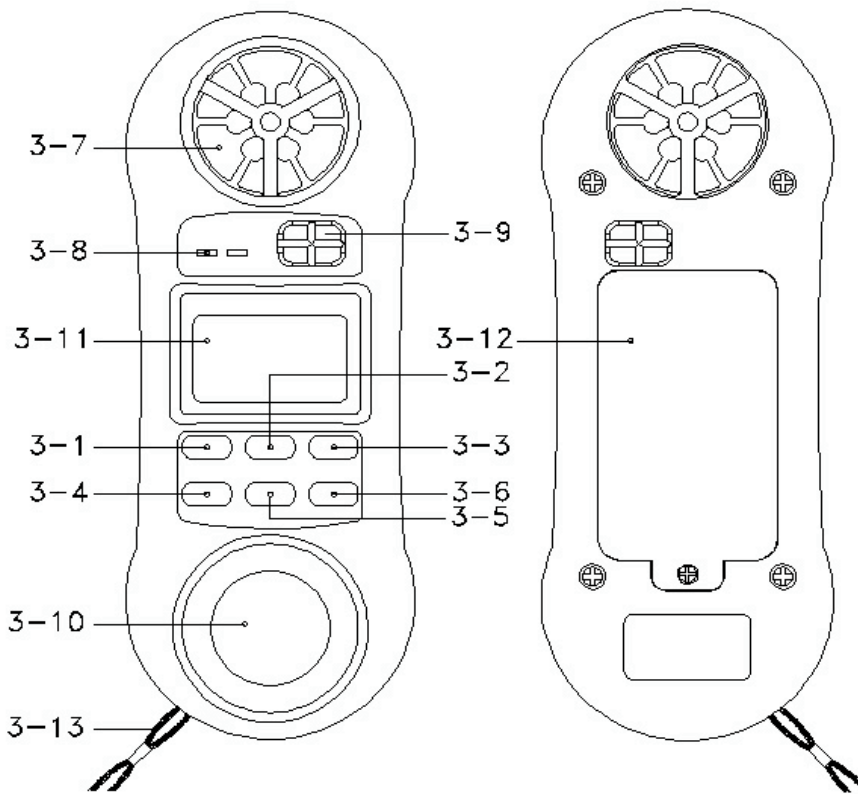

Fig. 1
- 1) Power on the instrument by pressing the " ON Button " ( 3-1, Fig. 1 ).
- 2) Select the Anemometer function by pressing " Function Button " ( 3-6, Fig. 1 ).
- 3) Press the " Unit/Zero Button " ( 3-4, Fig. 1 ) to select unit that you want and then face the " Anemometer Sensor " ( 3-7, Fig. 1 ) to the source of wind.
- 1) Power on the instrument by pressing the " ON Button " ( 3-1, Fig. 1 )..
- 2) Plug a type K thermocouple probe in the " Thermocouple Input Socket " ( 3-8, Fig. 1 ).
- 3) Select the Temperature function by pressing " Function Button " ( 3-6, Fig. 1 )
- 4) Press the " °C/°F Button " ( 3-5, Fig. 1 ) to select °C or °F unit.
- 1) Power on the instrument by pressing the " ON Button " (3-1, Fig. 1).
- 2) Select the Relative Humidity function by pressing " Function Button " ( 3-6, Fig. 1 ).
- 2) Select the Light Measurement function by pressing the " Function Button " ( 3-6, Fig. 1 ) until the light value is displayed. The light display digits are oriented 180° from the other function displays for easy exposure and output reading of the light sensor.
- 3) Press the " Lux/Ft-cd Button " ( 3-5, Fig. 1 ) to select measuring unit " Lux " or " Ft-cd ".
- \* For best results zero the light sensor prior to use in a dark environment. Placing the light sensor end of the meter under a desktop or flat surface so as to block any light can accomplish this. Then press the " Unit/Zero Button " ( 3-4, fig. 1 ) to set the meter indication to zero.
- 2) Select the Air Flow function by pressing " Function Button " ( 3-6, Fig. 1 ) until the display show unit of CFM or CMM.
- \* Air flow unit " CFM " or " CMM " can be select by pressing the " CFM/CMM Button " ( 3-4, Fig. 1 )
- \* Area size can be set by by pressing the " Area-Set Button " ( 3-5, Fig. 1 ), then use the
- ▲ Button ( 3-5, Fig. 1 )
- ▼ Button ( 3-6, Fig. 1 )
- ◀ Button ( 3-4, Fig. 1 )to select the desired area size.
- 4) Use the hand to hold the meter, face the " Anemometer Sensor " ( 3-7, Fig. 1 ) to the measured wind. In the same time the air flow value ( CMM, CFM ) will show on the LCD display.
Whenever press the " Hold Button (3-2, Fig. 1) " will freeze the current reading value with a "HOLD" symbol on the display.
- 1) The Data Record function records & displays the maximum and minimum reading values. Start the Data Record function by pressing the " REC Button " ( 3-3, Fig. 1 ) once. There will be a " REC " symbol on the display.
- (a) Press the " REC Button " ( 3-3, Fig. 1 ) once and the " Max " symbol along with the maximum value will appear on the display.
- (d) Clear the Max./Min. value recorded by pressing the " Hold Button " ( 3-2, Fig. 1 ) once. Previous recorded Max./Min. value will be given up and then revert to the REC. function keep on recording.
- 2) Open the " Battery Compartment / Cover " ( 3-12, Fig. 1) and remove the battery.